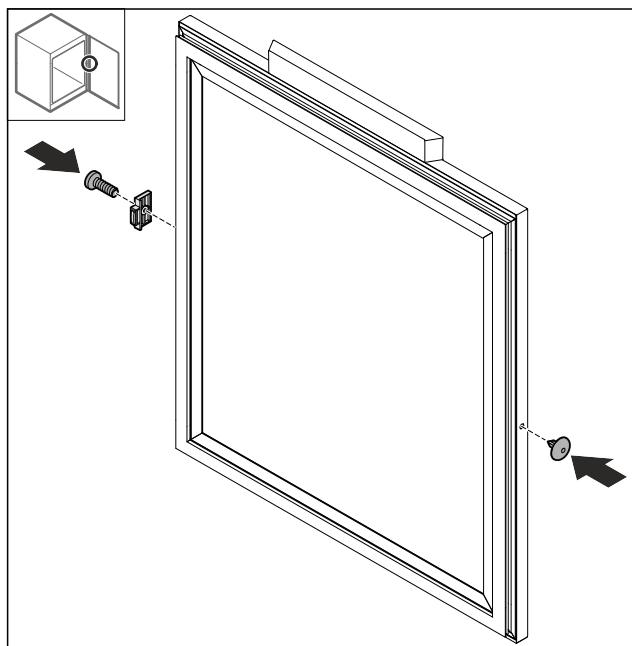

Fig. 74
- Turn the door stopper Fig. 74 (1) 180° and fit it on the opposite side.
- Insert the cover Fig. 74 (2) on the opposite side.